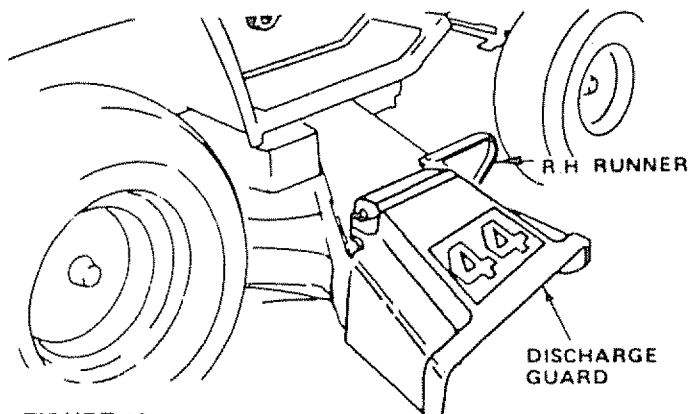

FIGURE 16
- a Use the runner on the R.H. side as a guide; the blade cuts approximately 2.54 cm (1 inch) outside the runner (Fig. 16).
Your mower has a flip-up discharge guard (Fig. 16) for door or gate clearance when held in raised position.